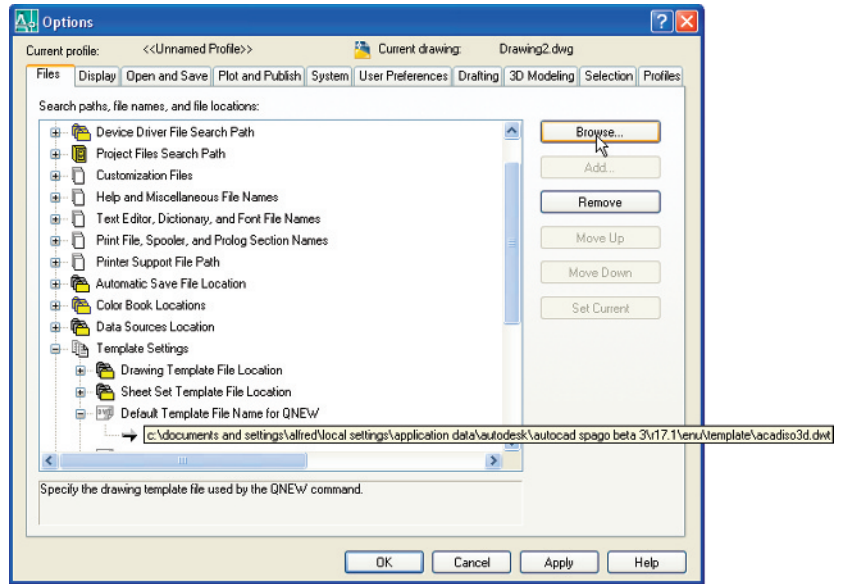

Fig. 16.5 Setting the default window in the **Options** dialog
7. In the **Options** dialog *click* the **Files** label and *click* **Default Template File Name for QNEW** (Fig. 16.5), followed by a *click* on the **Browse...** button which brings up the **Select template** dialog, from